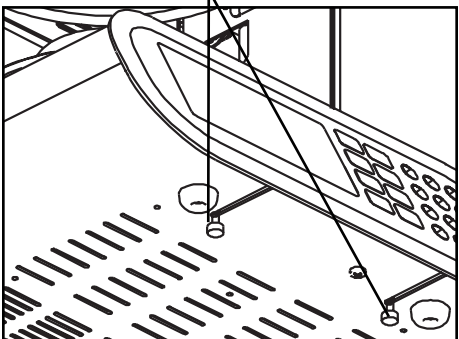

Fig 2D
6. Loosen the 2 thumb screws from the bottom of the chassis. Fig. 2D